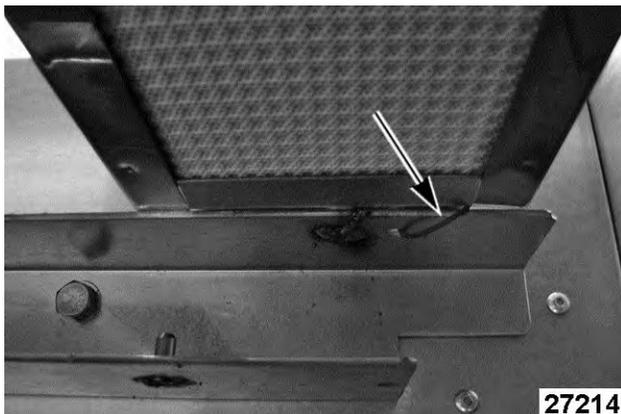

Fig. 22
3. From inside the broiler cooking area, remove wire Fig. 22 securing burner to mounting bracket.